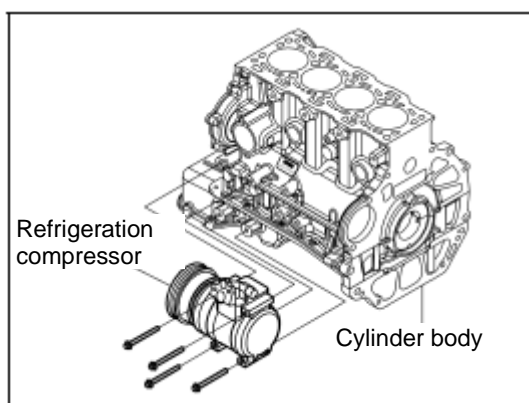

Fig. 5-3-9 Removing the refrigeration compressor assembly
- (1) Turn the accessory tension pulley with tools until the generator belt is loose enough, and then remove the generator belt.
- (2) Remove the wire connector of electromagnetic clutch.
- (3) Remove 4 hexagon flange bolts (M8x85) fastening the refrigeration compressor to the left side of the cylinder body, and take off the refrigeration compressor assembly. See Fig. 5-3-9.